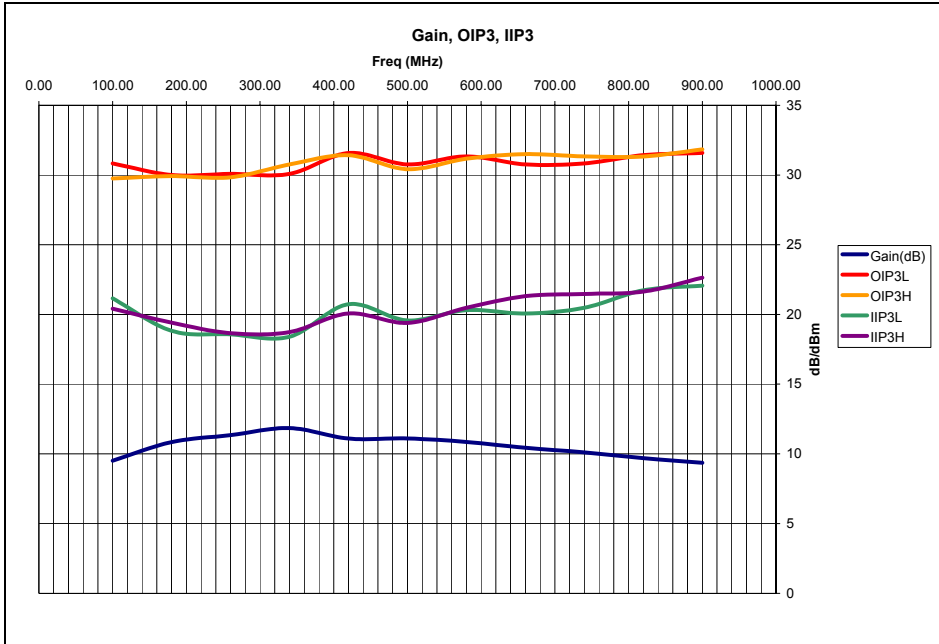
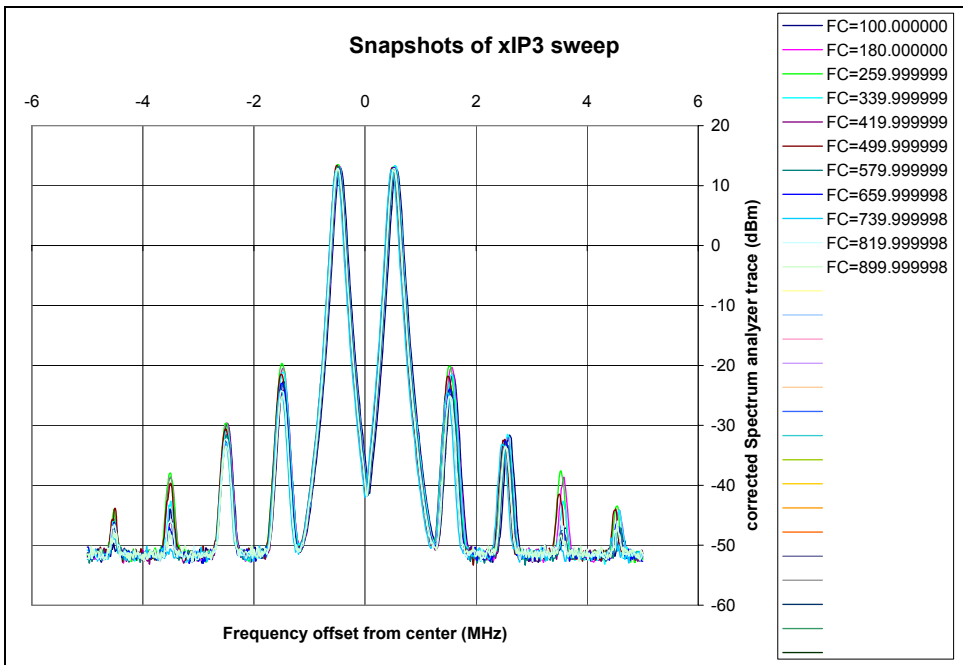

Figure 3: 11 point sweep of an AH1 amplifier prototype
Figure 4: "Snapshots" taken during the sweep
13. The report files (report and snapshot) can be opened to review the output. For graphs, just select all the text of the report and paste them into the Excel templates provided in the installation directory (shortcuts are made to these). The resulting graphs for this sweep can be found in Figure 3 and Figure 4 . Note that if the leveling loop fails, an ERROR term is shown in the output report and on the output graph labeled “Error_chart”. The leveling works well, but still fails occasionally for some reason. A flaky DUT will definitely cause it to fail, as will specifying levels which cannot be achieved. OIP3H/L are the OIP3 based on the high tone/IM3 product and Low tone and IM3 product. Significant imbalance in these should raise a warning flag.